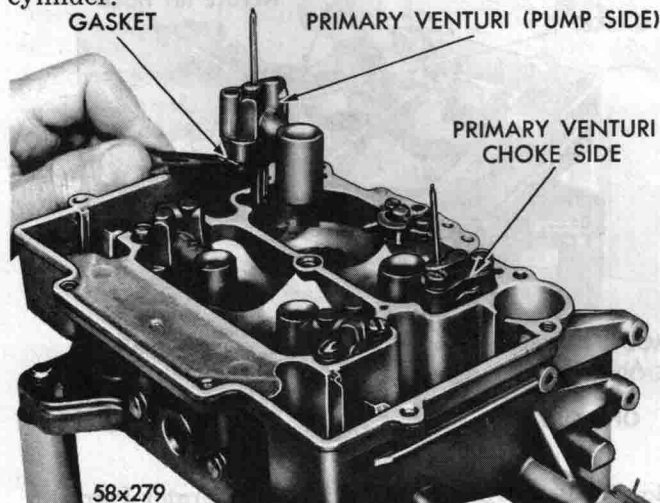

Fig. 26—Removing or Installing Primary Venturi
(4) Remove the screws that attach the primary venturi (choke and pump side) to the main body. Lift the venturi straight up and away from the main body, as shown in Figure 26. Discard the gaskets.
(1) Slide the primary throttle valve (or valves) into their respective bores, install new screws, but do not tighten. Be sure the idle speed adjusting screw is backed out. Hold the valves in place with fingers. (Fingers pressing on the high side of valves.)
(2) Tap the valves lightly in this position, tighten screws securely. Stake screws by squeezing with pliers.
(3) Install the two idle mixture adjusting screws and springs in the throttle body portion of the casting. The tapered portion must be straight and smooth. If the tapered portion is grooved or ridged, a new idle mixture adjusting screw should be installed to insure having correct idle mixture control. **Do not use a screw driver.** The adjustment should be made with the fingers. Turn the idle mixture adjusting screws lightly against their seats, then back off one full turn for an approximate adjustment.
(4) Place new secondary venturi gaskets in position, then install the secondary venturi (pump and choke side) by lowering straight down on gaskets. Install attaching screws and tighten securely. **Be sure all the metering holes and vent tubes are clean, in both the primary and secondary venturi.**
(5) Place new primary venturi gaskets in position, then install the primary venturi (pump and choke side) by lowering straight down on the gaskets. (Refer to Fig. 26.) Install attaching screws and tighten securely.